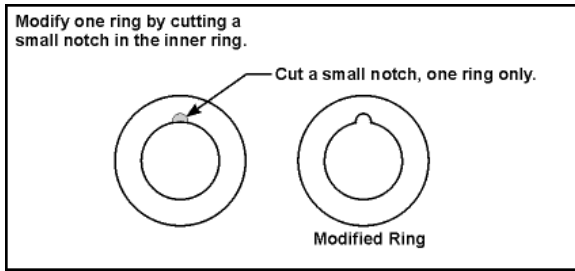

Figure 3
- Modify one of the two Centering Rings by cutting a small notch on the inside circle, large enough to clear the Engine Hook, as shown in **Figure 3**.